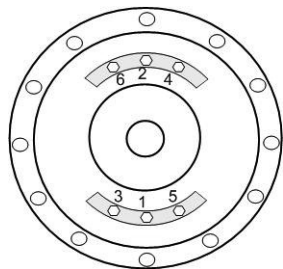

Figure 27: Bowl Bolts Torque Pattern
13. Remove the (6) bowl bolts that connect the upper bowl of the cartridge stack to the seal plate. The seal plate and motor adapter can be removed as a single unit. Retain bolts for reassembly.
14. Assemble the seal plate/motor adapter to the replacement cartridge stack using the (6) bowl bolts removed in step 13. Torque the bolts in the pattern shown in Figure 27. See the “Engineering Data” section on page 8 of this manual for the proper torque value.